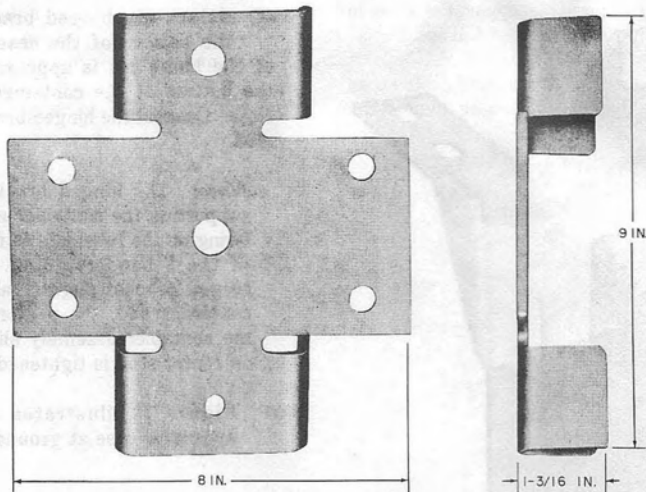

Fig. 9—Pole Mounting Brackets
**3.08** Install the pole mounted bracket shown in Fig. 9 on the pole with a cable suspension bolt.